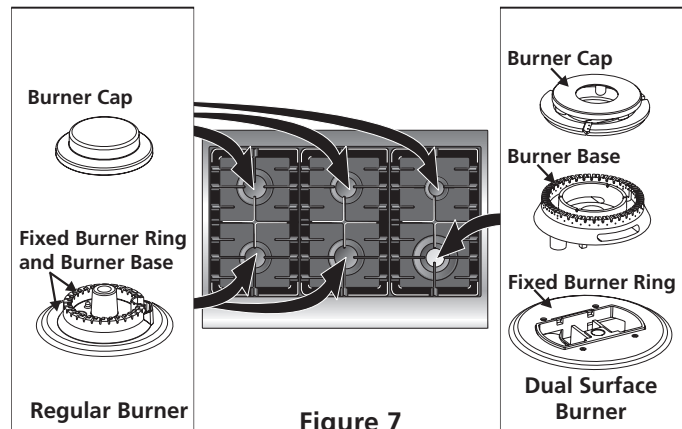
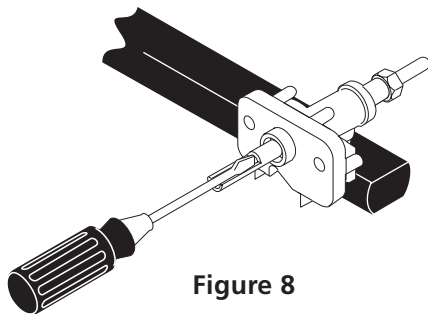
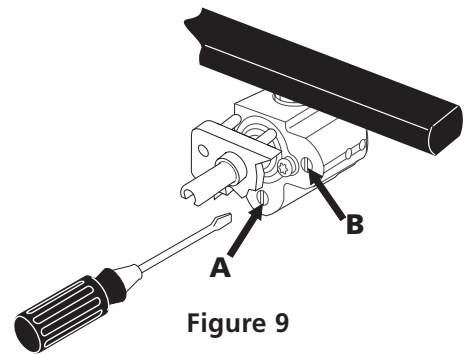

Figure 7
Figure 8
Figure 9
This range is equipped with sealed burners as shown (Figure 7). All pieces are at their place. Take note where they are. **Remove all packaging material located under the Dual Surface burner head.** Make sure the burner is properly aligned and leveled. **NOTE:** There are no burner adjustments necessary on this range.
4. Adjust the "LOW" Setting of Regular Burner (see figure 7) on the Surface Burner Valves (Figure 8):
5. Adjust the "LOW" Setting of the Dual Burner (see Figure 7) on the Surface Burner Valve (Figure 9):
- The inner portion of the dual burner flame size can be increased or decreased by turning screw **A** (see Figure 9). Use screw **B** to adjust the flame size of the outer portion of the dual burner. Turn counterclockwise the screw to increase flame size. Turn clockwise the screw to decrease flame size. Adjust flame until you can quickly turn knob from LITE to LOWEST POSITION without extinguishing the flame. Flame should be as small as possible without going out.